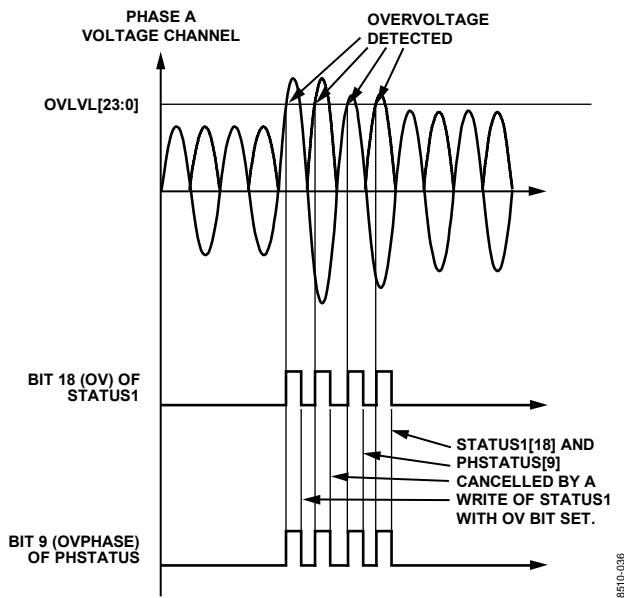

Figure 35. Overvoltage Detection
The ADE7880 detects when the instantaneous absolute value measured on the voltage and current channels becomes greater than the thresholds set in the OVLVL and OILVL 24-bit unsigned registers. If Bit 18 (OV) in the MASK1 register is set, the $\overline{\text{IRQ1}}$ interrupt pin is driven low in case of an overvoltage event. There are two status flags set when the $\overline{\text{IRQ1}}$ interrupt pin is driven low: Bit 18 (OV) in the STATUS1 register and one of Bits[11:9] (OVPHASE[2:0]) in the PHSTATUS register to identify the phase that generated the overvoltage. The Status Bit 18 (OV) in the STATUS1 register and all Bits[11:9] (OVPHASE[2:0]) in the PHSTATUS register are cleared, and the $\overline{\text{IRQ1}}$ pin is set to high by writing to the STATUS1 register with the status bit set to 1. Figure 35 presents overvoltage detection in Phase A voltage.